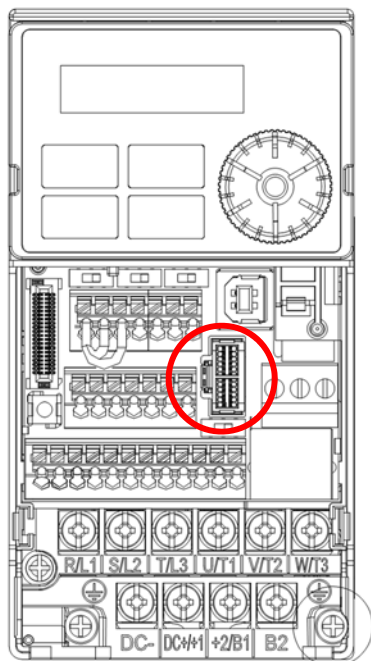

Figure 8-3
2. Assembling connection cables: Connect the connector at one end of the connection cable to the control board connector. For information on connection method, refer to Section 8-1 (see Table 8-2 and Figure 8-3).